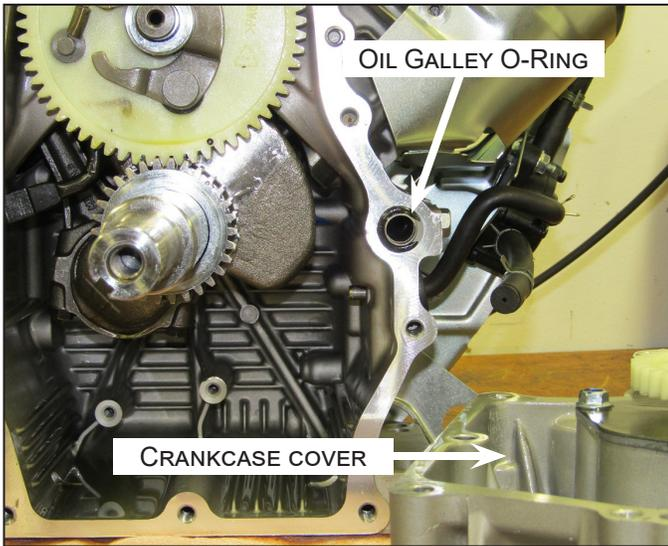

Figure 3
7. Pry the Crankcase cover from the engine block. Clean off old gasket material from the Crankcase. Inspect for and take note of the Oil Galley O-Ring. Is it broken/damaged as shown in Figure 3. as seen below? Order and replace the O-Ring. See Figure 3.